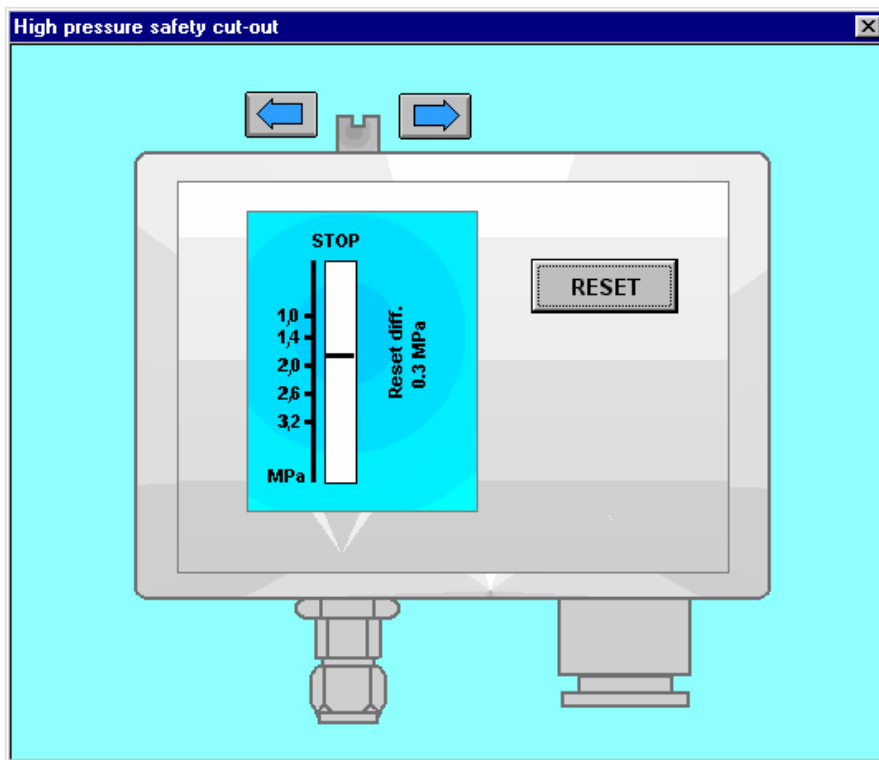

Fig. 5 High pressure safety cut-out diagram /HPC/
- high pressure safety cut-out diagram HPC /fig.5/,